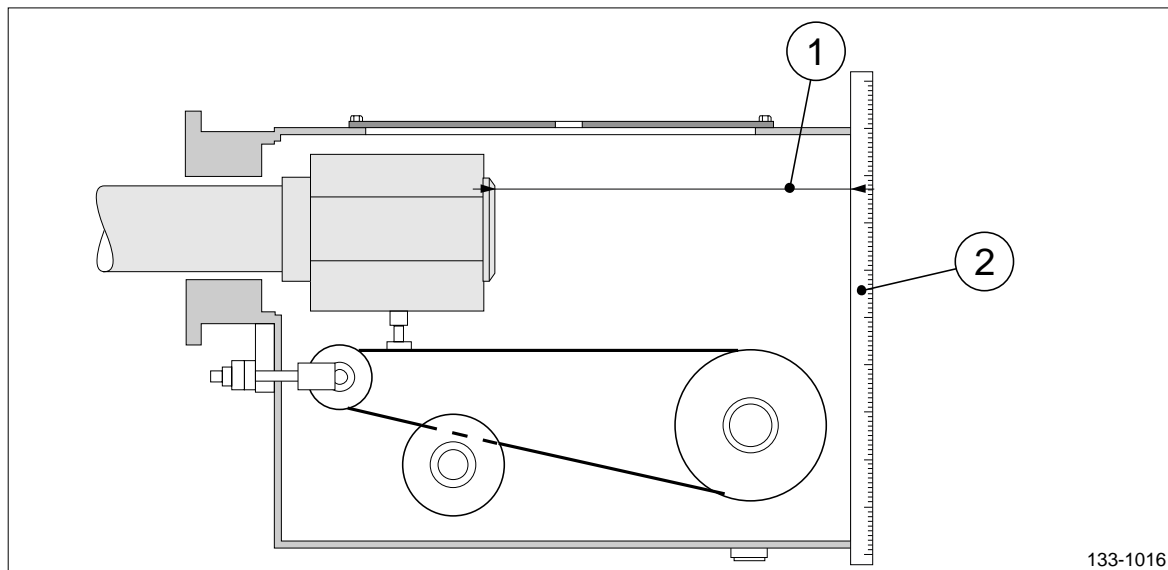

Figure 2 Position of the OD-box ring in mechanical end position astern.
5. Inspect that the position of the OD-box ring does not exceed the maximum ahead position, see value stated on the OD-box Assembly drawing and in figure 2. Measure the distance from the OD-box ring to the forward end of the OD-box housing. Put a ruler over the opening and use it as a straight-edge to measure against. Note: do not measure from the washer, see figure 2.